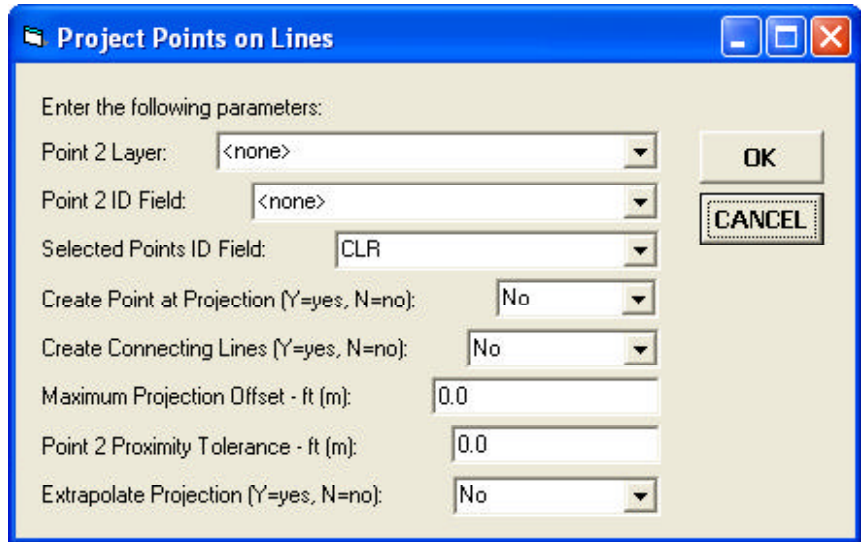
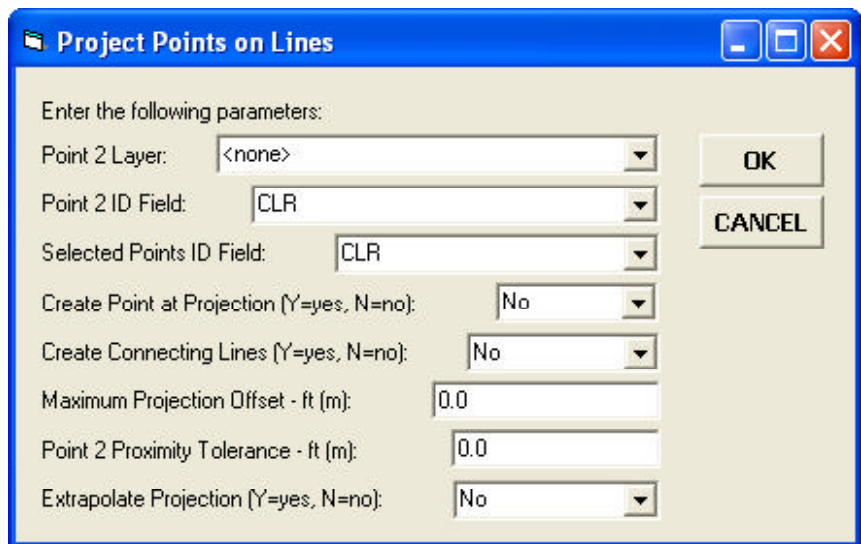

Figure 5
Figure 6
- **6** **Enter** the appropriate information for the various parameters shown in Figures 5 and 6. If there is only one active point layer, the multi-input dialog box that is displayed will resemble the one displayed in Figure 5. If there is more than one active point layer, see Figures 6 and 7.
In specifying the information requested by the parameters shown in Figures 5 and 6, the user should note the following: